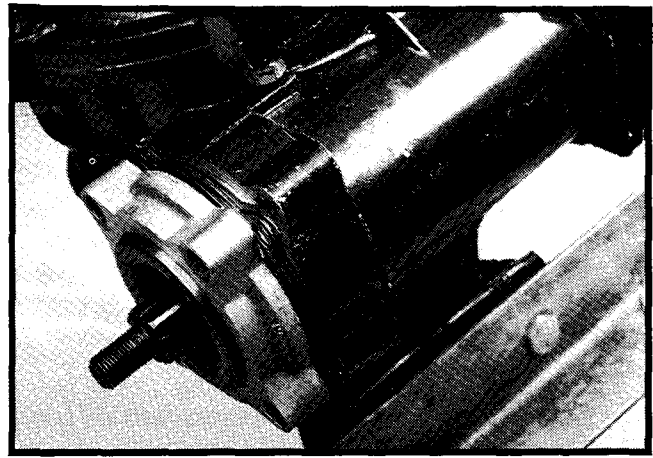

Figure 3.
2. Remove the worm. See Figure 3.